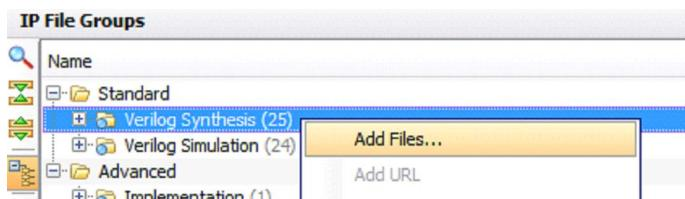

Figure 8-24: Add Files Option
- Open the Add IP Files dialog box, right-click the respective file group, and select **Add Files**, as shown in Figure 8-24.